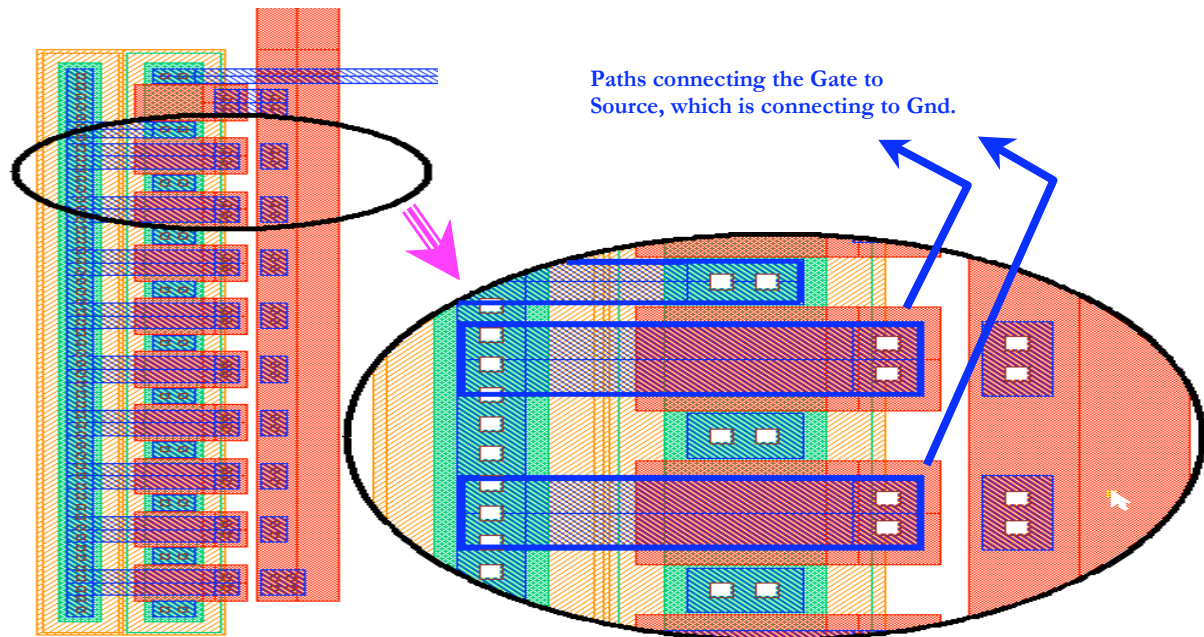

Figure 68: Grounding the un-used transistors (Shorting the gate to gnd!).
- Now we need to ground the transistors we aren't using. To do so, create paths of width **6.4** (same width as used in the connection of the signal path over poly), connect the gate to the source (Figure 68) so that when we ground the source later, we also ground the un-used transistors.